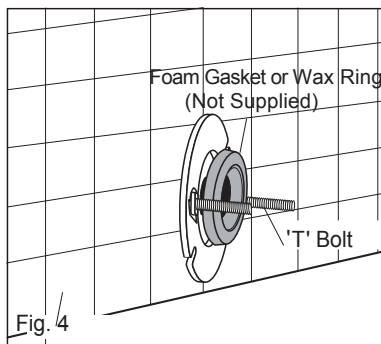

Fig. 4
2. Position 'T' bolts and foam gasket or wax ring (not supplied) onto closet flange, as detailed in Fig. 4.